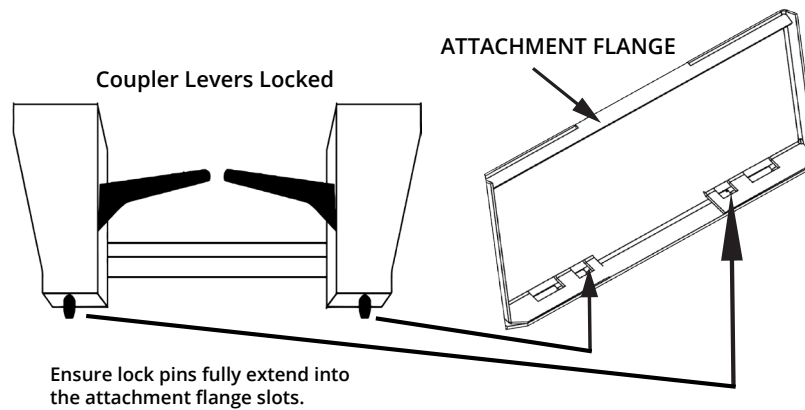

Figure 3.2c Quick Attach Mechanism Locked to Attachment Plate
4. Activate your skid steer's lever lock switch to lock the pins into the flange slots of the brush cutter's attachment plate. If your skid steer does not have this switch, manually lock the levers as shown in Figure 3.2c below.